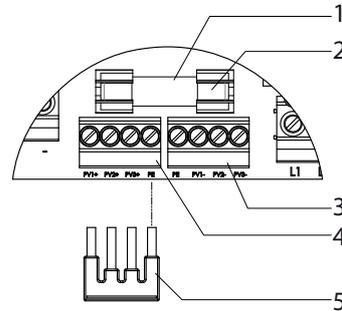

Fig. 9: Installation of full bridge for grounding the PV generator
- 2. Plug the full bridge onto the positive or negative grounding terminal. Example: Installation on the plus grounding terminal (see figure 9 on page 23).